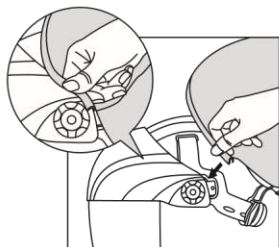

Fig.6a
Step 1: Insert the U-shaped sealing layering into the edge of face shield shell. Use the thumb to press the edge of sealing layering to make it fix into the face shield shell (See fig.6a).